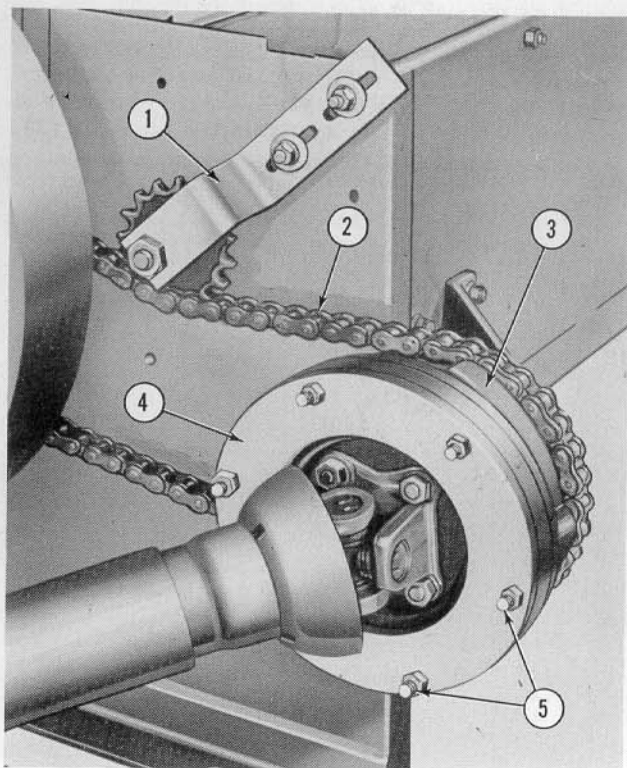

Figure 13
P.T.O. Drive Over-Running and Friction Clutch: Ford P.T.O. Driven Hay Balers are equipped with a special over-running clutch (3), Figure 13, and a spring washer type friction clutch (4) which provides additional protection for the tractor power line.
1. Tension on the P.T.O. drive chain (2), Figure 13, (P.T.O. Balers only) is adjusted by means of the chain tightener (1).